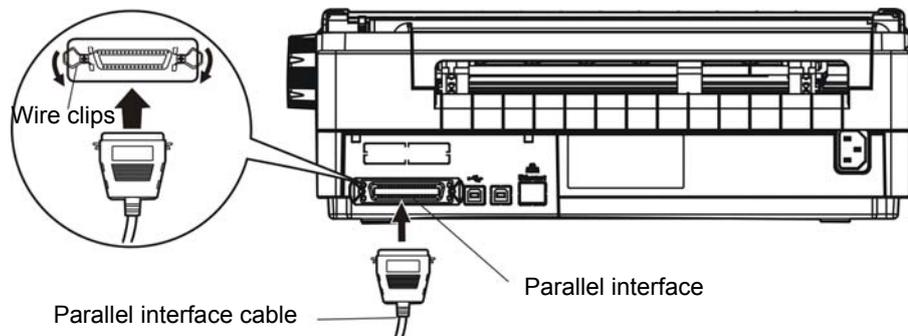

Figure 1-13 Connect to the parallel interface
1. Turn off both the computer and the printer. Plug the parallel interface cable into the printer's parallel interface. Squeeze the wire clips on both sides of the connector and make the connector fixed. (Shown as figure 1-13)